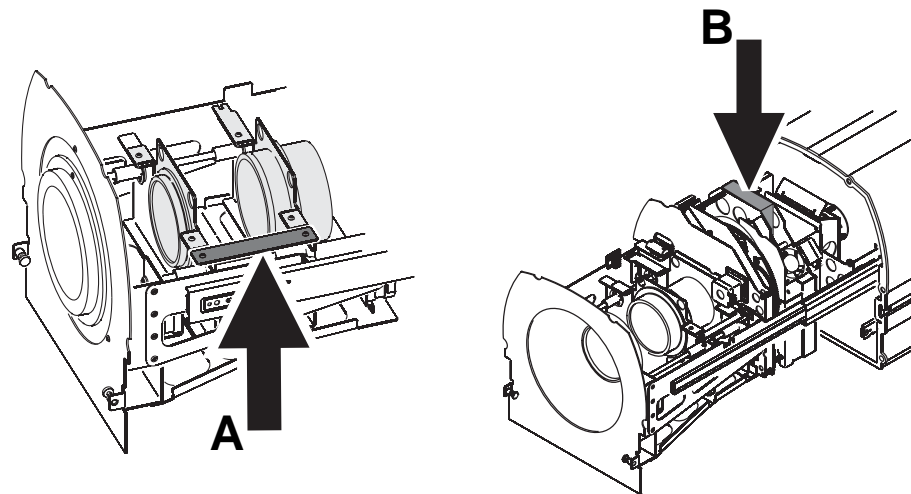

Figure 2: Protective packaging – remove before use!
- A foam block wedged around the CMY flags and a metal bracket on the lens cars (see Figure 2 on page 15) to protect components during transport. The block and bracket must be removed before use!
See Figure 2. Before the Exterior 1200 Image Projector can be used, you must open it, remove the shipping bracket (A) from the lenses and protective foam insert (B) from around the CMY flags, and then install the lamp supplied with the product. It will almost certainly be easiest if you do this now, before the luminaire is installed in its final location.